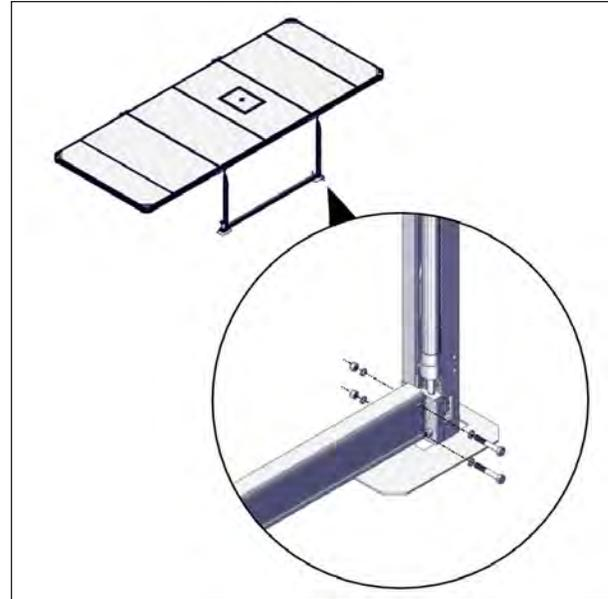

FIGURE 94: U-FRAME INSTALLATION
4. Install the U-frame over the drive shaft. The U-frame is attached to the post bracket of the motor and non-motor jacks. Fasten in place using the hardware provided: four hexagonal 5/16" x 2" screws and 5/16" nylon insert locknuts. Use a 1/2" (13 mm) socket wrench and spanner see Figure 94.